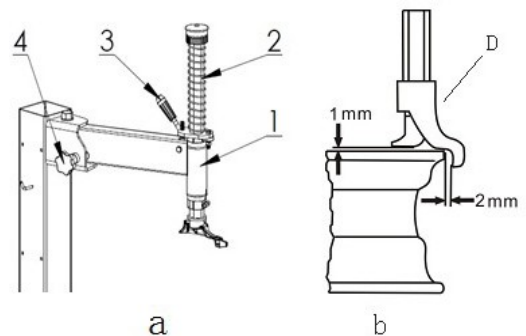

Fig. 16
- Unlock the vertical arm (2, fig.16a) by pulling the arrest lever (3, fig.16) toward you.